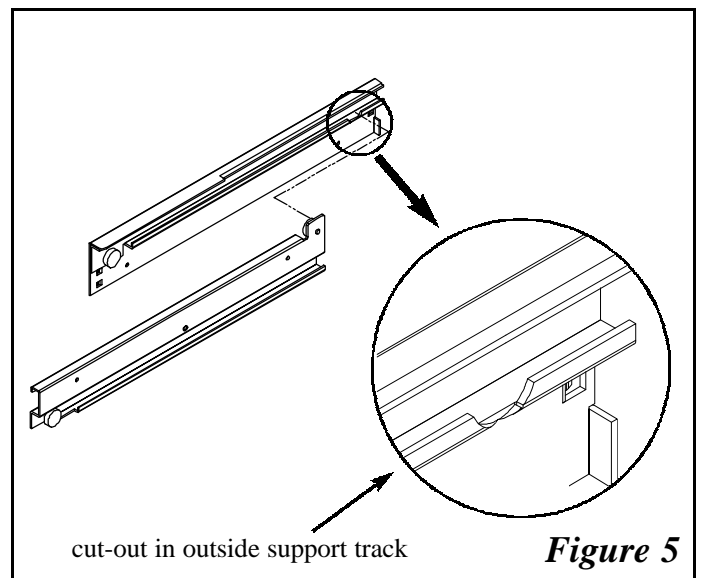

Figure 5
- Slide the rear bearing of the right or left extension track ④ or ⑤ through the cutout in the support track ②. The bearing has to point away from you (see figure 5).
- Lift the front portion of the extension track ④ or ⑤ over the front bearing of the outside support track ② or ③.
- Insert galvanized retainer bracket ⑦ into the first slot in the front vertical side frame directly above the outside support bracket ③ and push the top tab into the second slot. Hold the bracket in place with one hand and insert a 1/4-20 x 3/4" socket cap screw through the hole of the outside support bracket and secure with a 3/16" allen wrench into the retainer bracket.
- Extend right ④ and left extension tracks ⑤ the same distance.
- Lista recommends removing tray inserts ⑥ from the tray before proceeding with the following steps. Removing tray inserts will make it easier to install the tray. Two people may be required to install the trays into the Storage Wall sections.